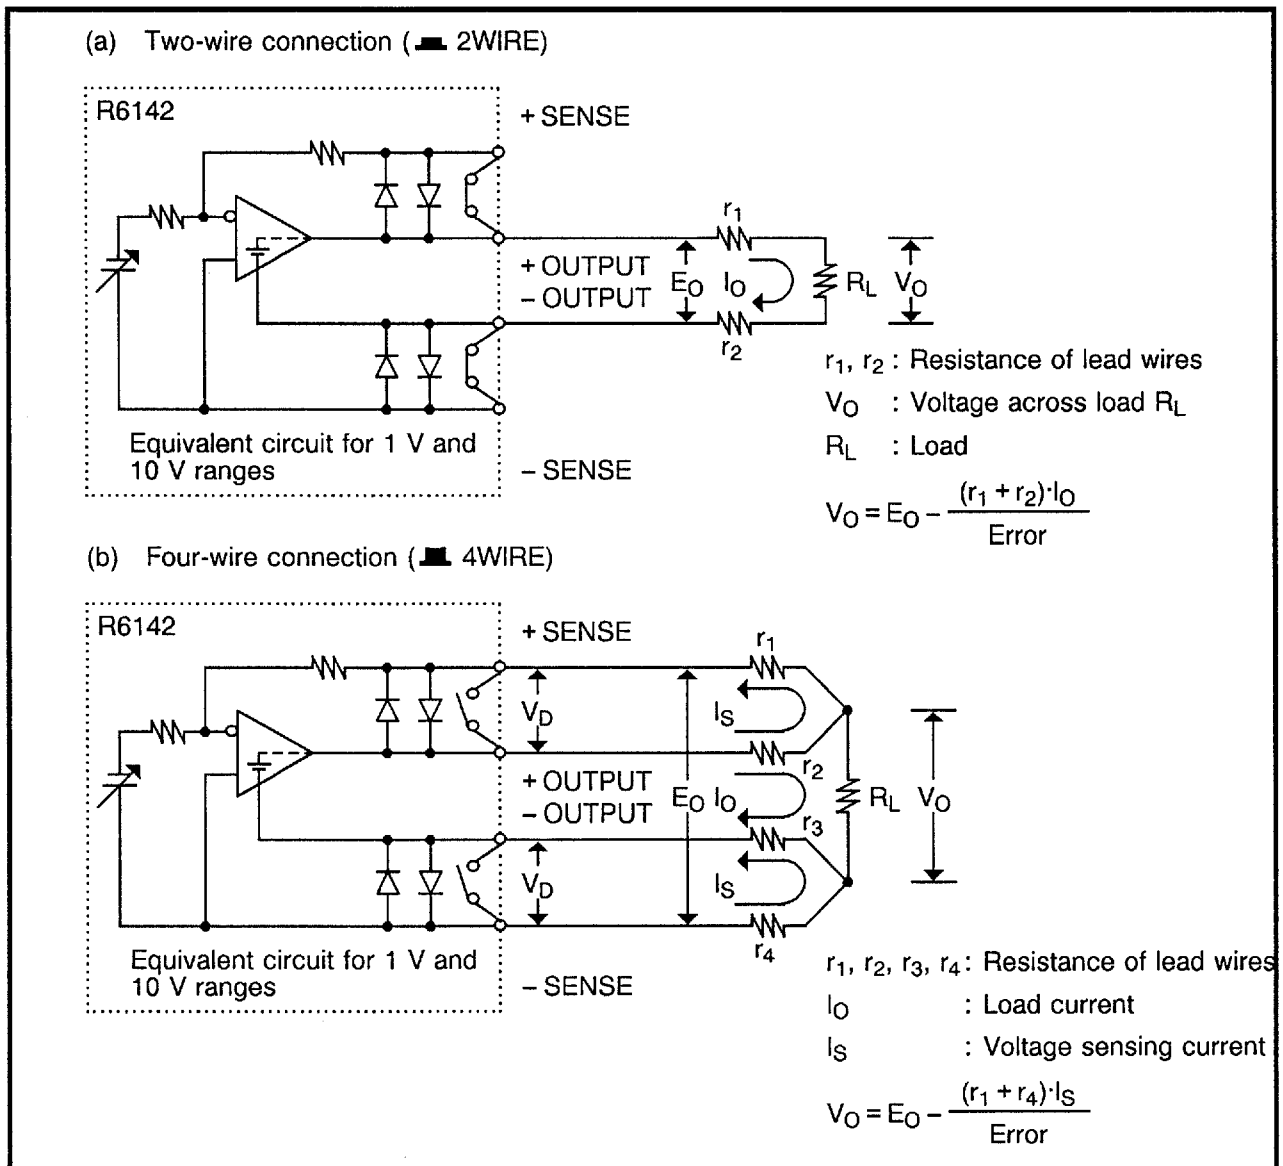

Figure 3-2 Equivalent Circuits
Figure 3-2 shows the equivalent circuits of two-wire connection ( 2WIRE) and four-wire connection ( 4WIRE).
1. In Figure 3-2, $V_O = E_O - (r_1 + R_4) I_S$ is satisfied only when V_D does not exceed 0.3 V.